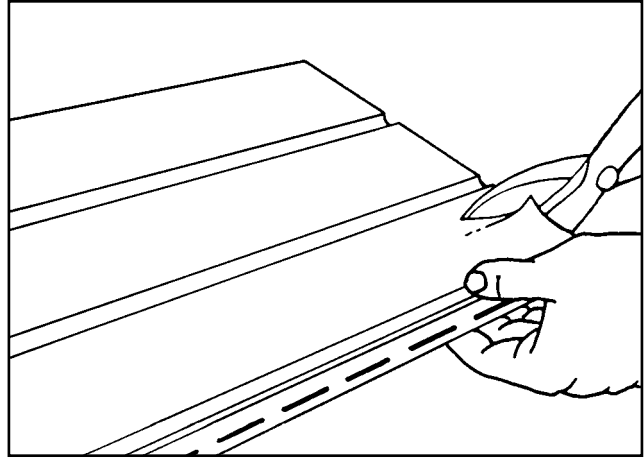
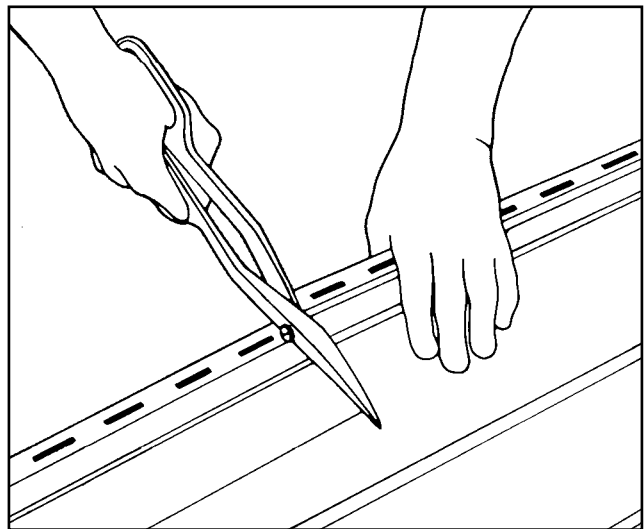

Fig 2.3
Fig 2.4
2. Using **tin snips** (Fig. 2.3), avoid closing the blades completely at the end of a cut (Fig. 2.4). This will keep the panel from buckling and provide a neater, cleaner cut.